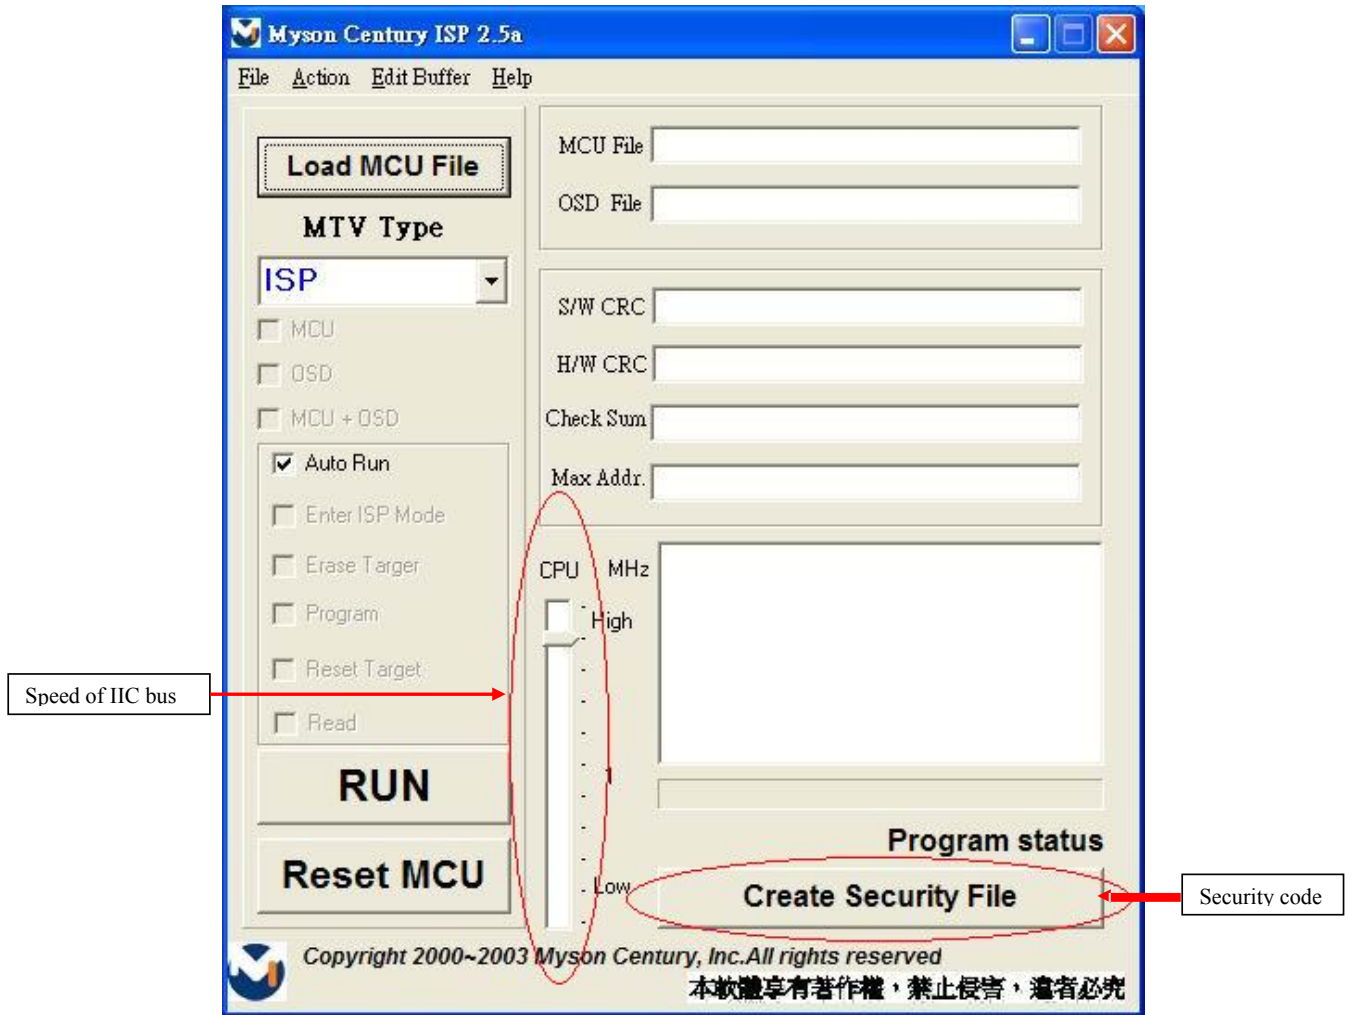

Fig. 2.4
4. As shown in Fig. 2.4, press the "Create Security File" button to key in a security code, and use the slider bar to adjust the speed of the IIC bus.